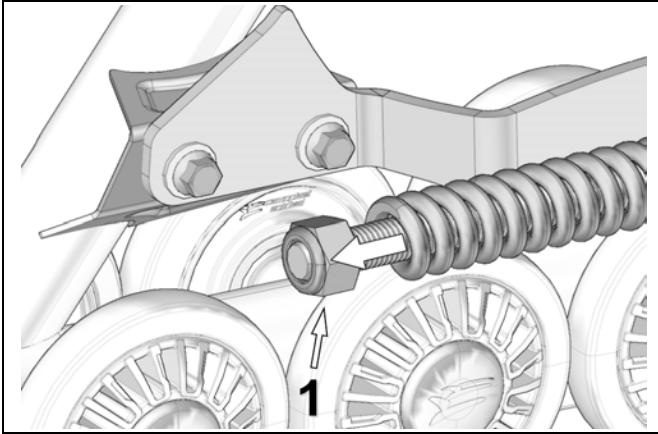

Figure 8
- Loosen the nut (1) compressing the spring of the stabilizing rod. See Figure 8.